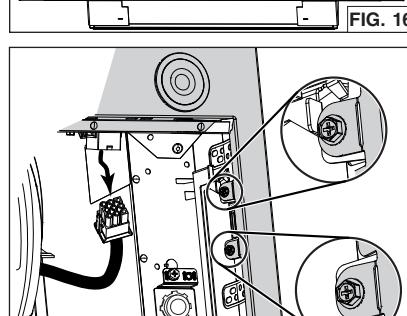

FIG. 17
6. Unplug the blower cable from its connector on faceplate. Disassemble the faceplate from the unit by removing its 4 retaining screws (two per side, circled in FIG. 17). Set aside the faceplate along with its screws.